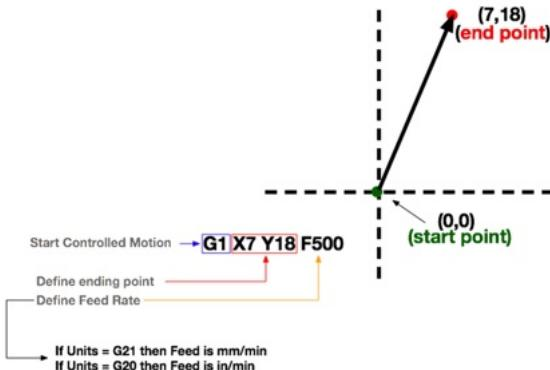

Figure 8-4. G1 moves the machine at a specified feed rate
As illustrated in Figure 8-4, issuing a G1 command tells the machine to move at the specified feed rate (F):